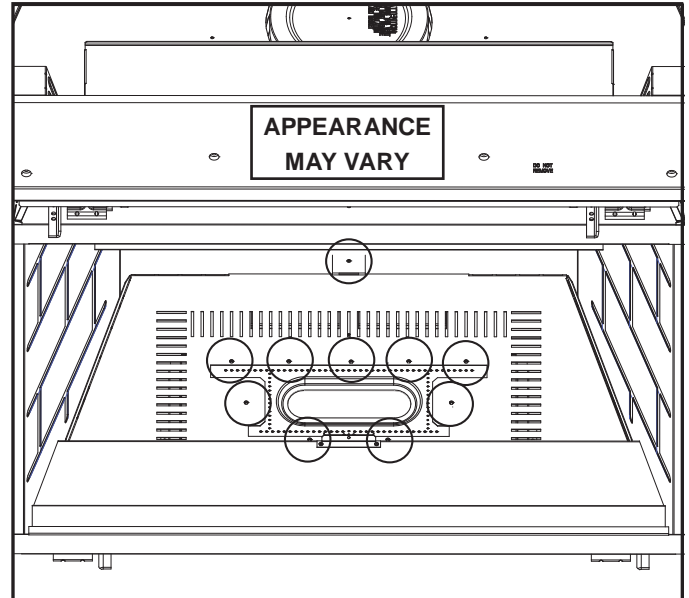

Figure 3.4 Base Pan Removal
4. Remove the base pan by removing the screws circled in Figure 3.4.